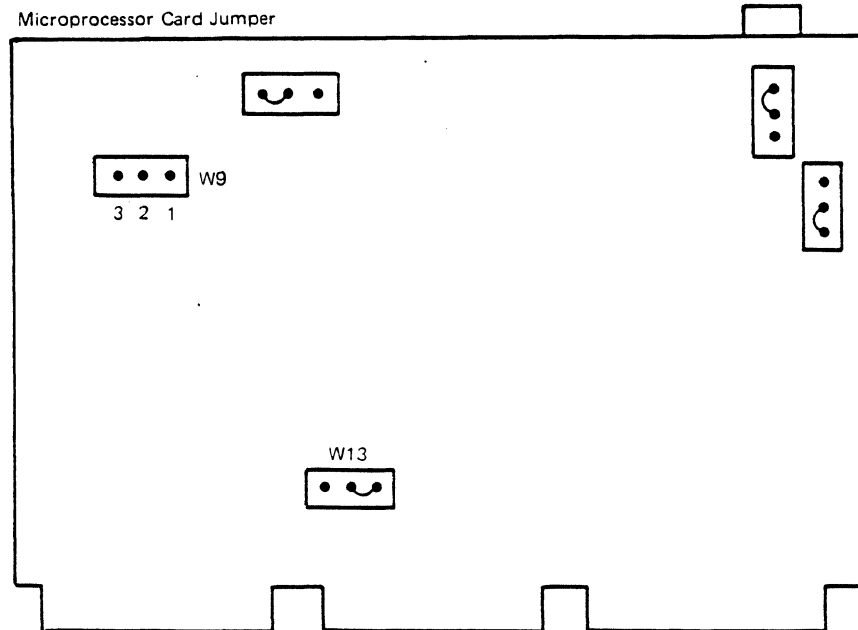

Figure 9-7. Microprocessor Card Jumper Diagram
2. Locate jumper area W9 (Figure 9-7) and move the jumper from pins 1 and 2 (disable CMEM backup battery) to pins 2 and 3 (enable CMEM backup battery).